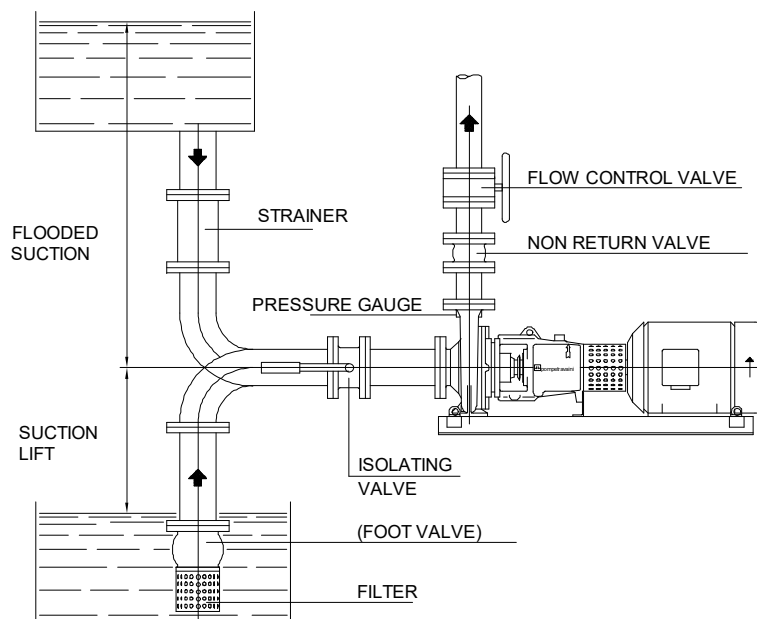

Fig.13
9.2.1 - Suction piping (see fig. 13)
9.2.2 - Discharge piping (see fig. 13)